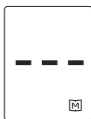

Figure 17
If you do not want to clear the memory, press the **"SET"** button to skip this step. If you want to clear ALL memory, press and hold the **"M"** button for five (5) seconds. "- - -" will appear to indicate all memory has been deleted. See Figure 17.